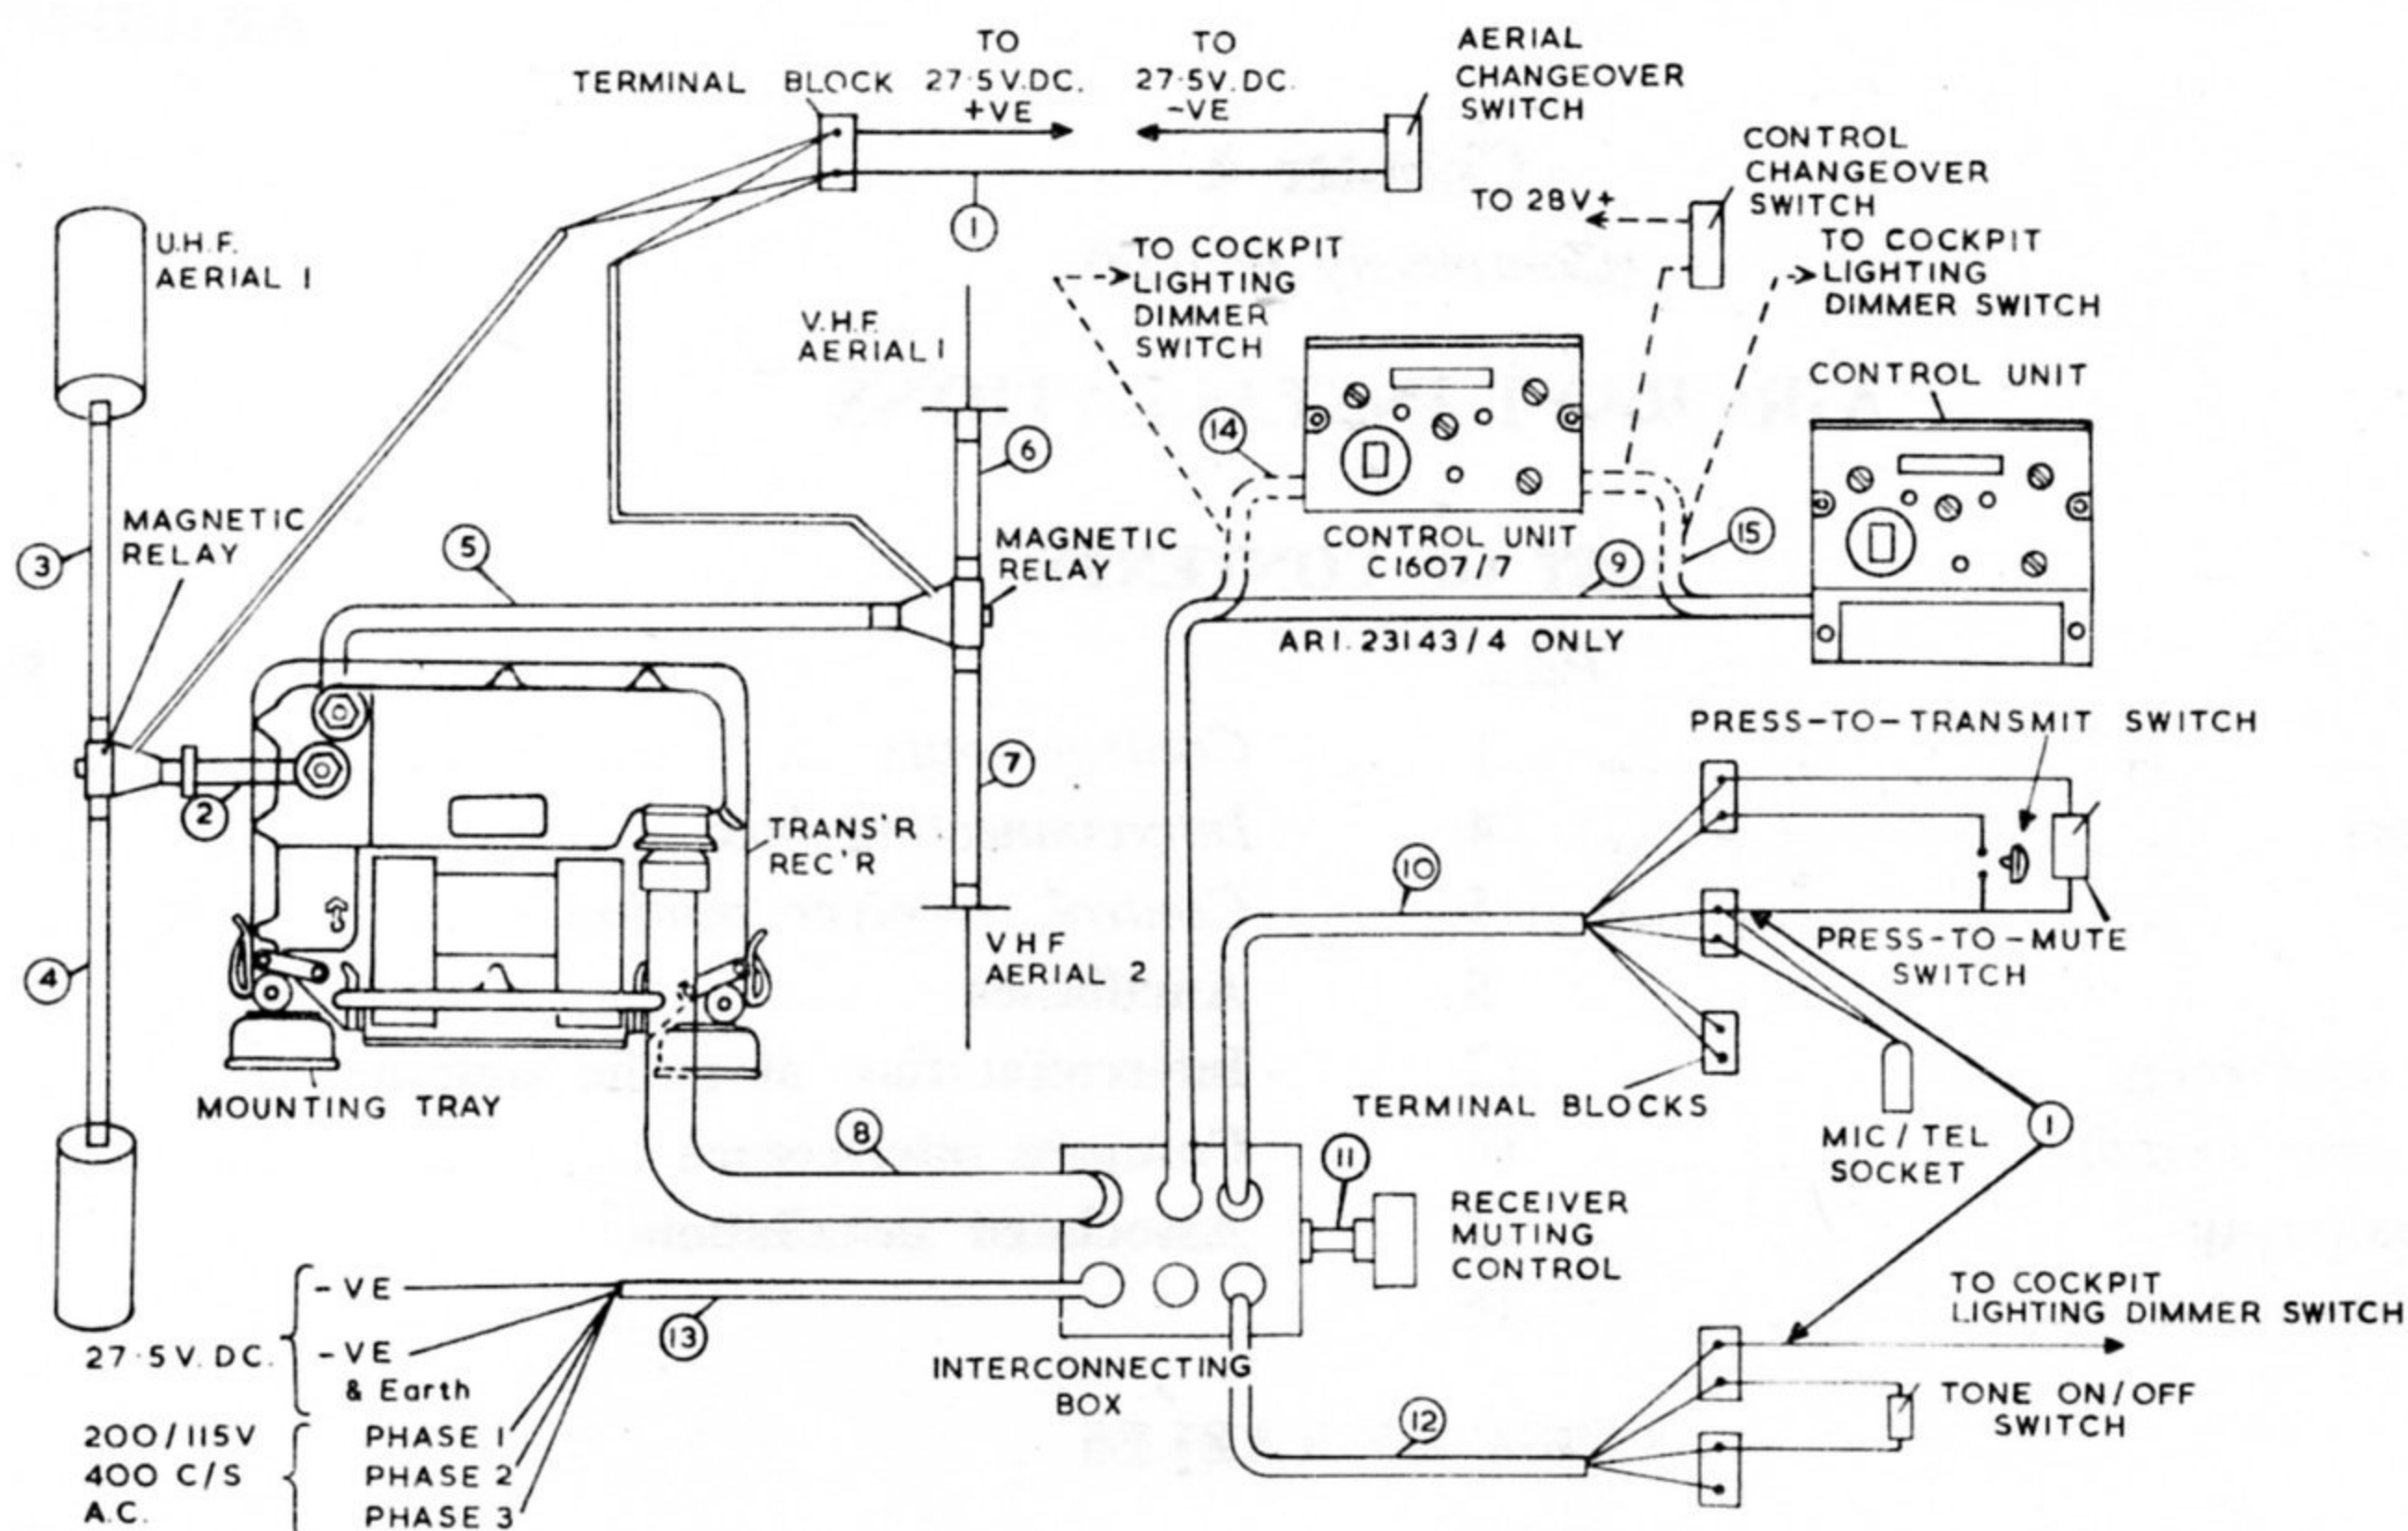
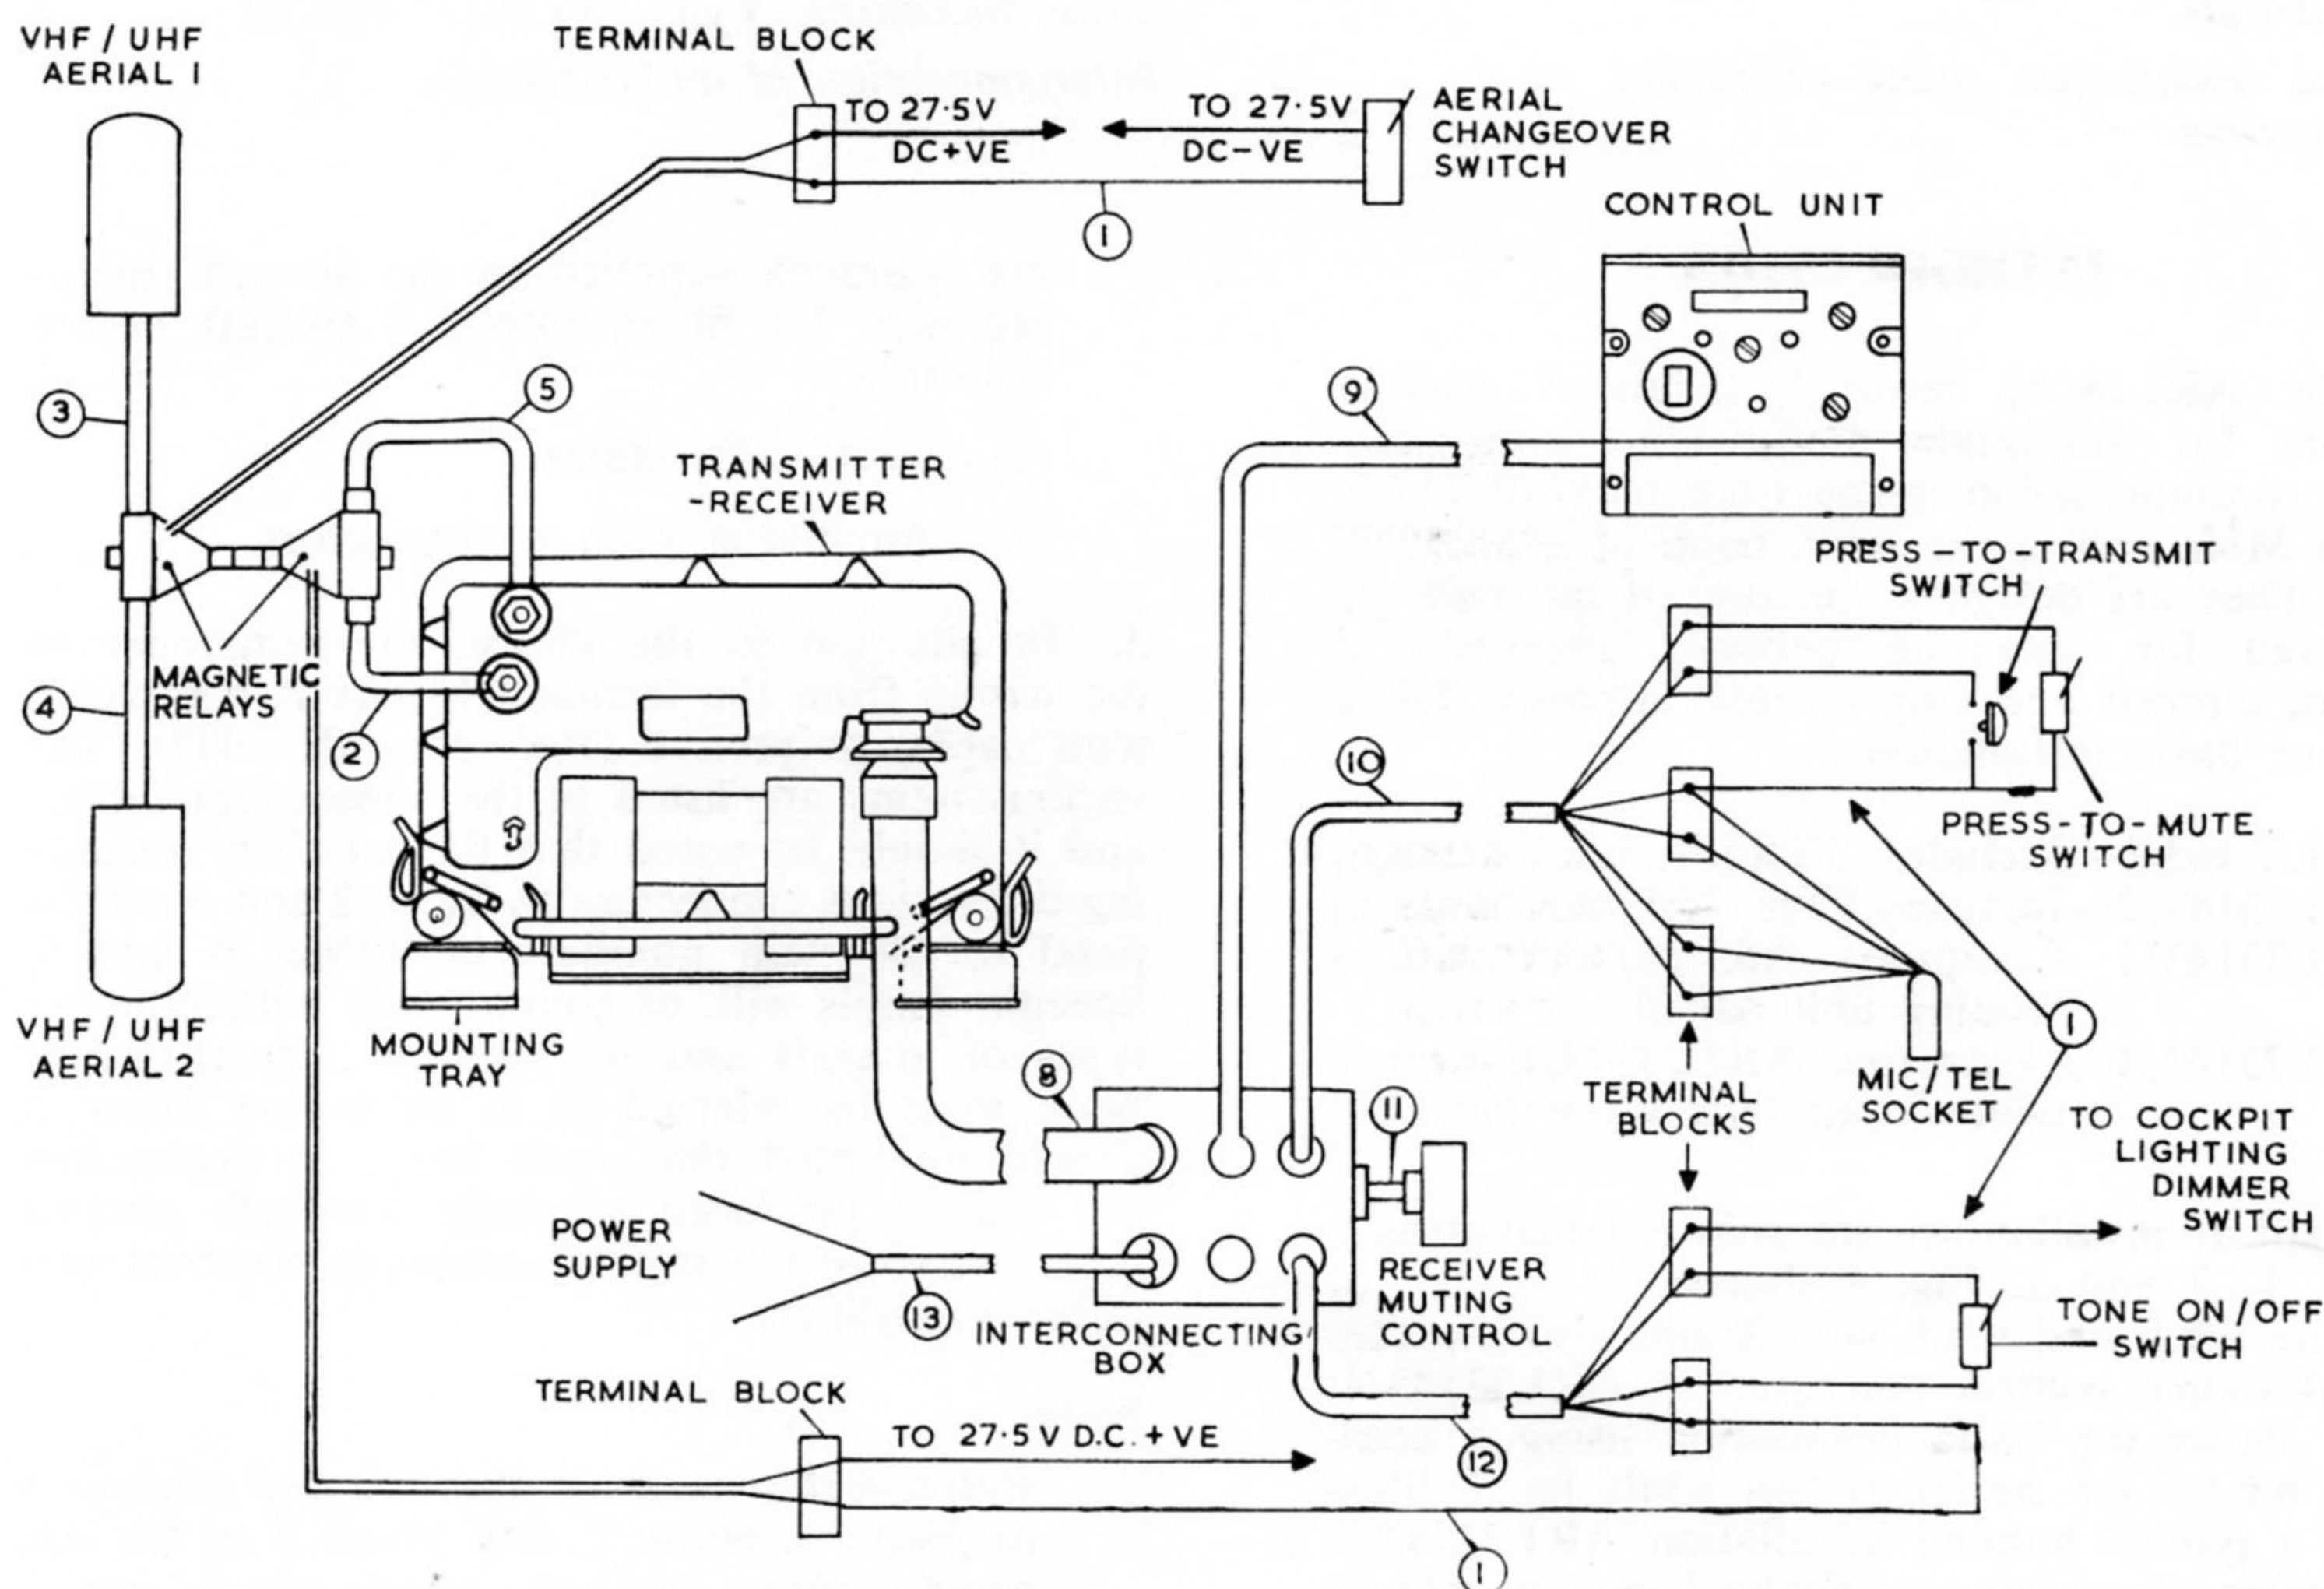
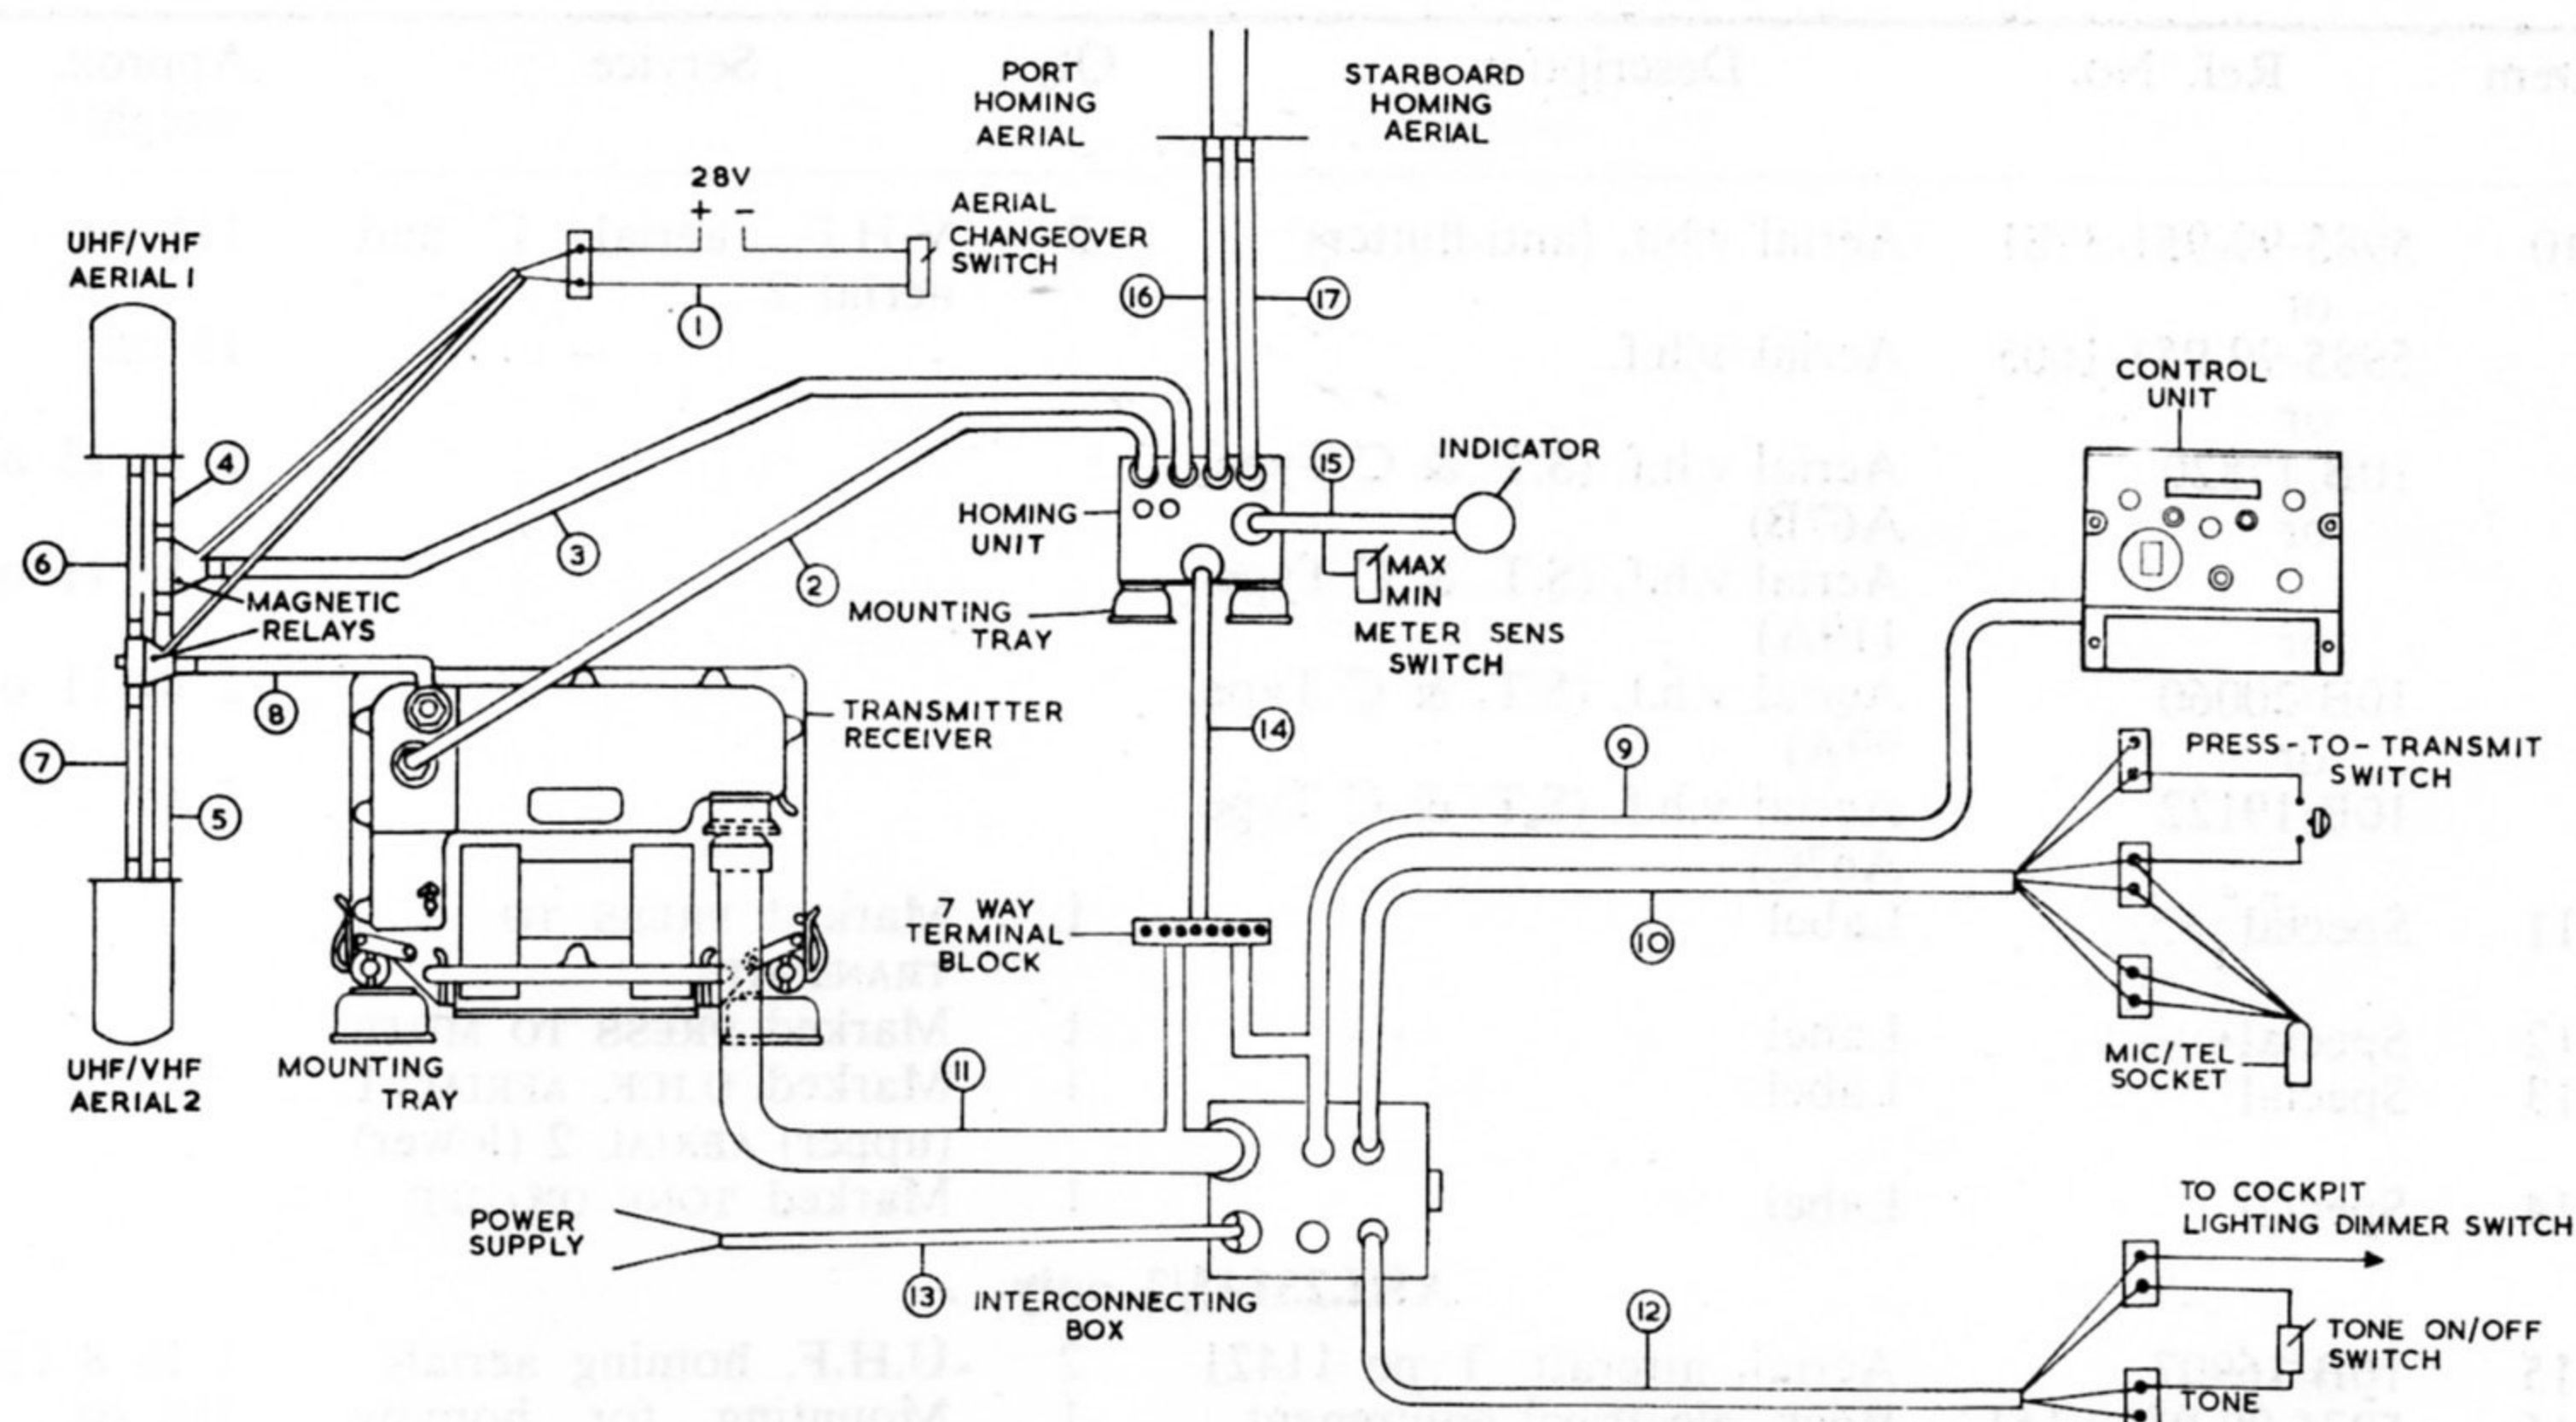

Fig. 1. Typical installation using separate v.h.f. and u.h.f. aerials
Fig. 2. Typical installation using combined v.h.f./u.h.f. aerials
Fig. 3 Typical homing installation
2. Typical installations are shown schematically in fig. 1, 2 and 3. Fig. 1 illustrates the use of separate u.h.f. and v.h.f. aerials and also includes the additional control unit used in ARI.23143/4; fig. 2 shows the basic installation using a combined u.h.f./v.h.f. aerial system while fig. 3 illustrates a typical homing installation ARI.23143/3. The items of equipment involved may be placed in three categories:—
3. In addition to the above, the remainder of the wiring from the terminal blocks is completed with cable, unipren 6 (Ref. No. 5E/3038). The various items are listed in the subsequent tables, and it should be noted that the numbers indicating the various connectors in fig. 1, 2 and 3 correspond to the item numbers in Tables 4 and 5. Specific details will, of course, vary with different types of aircraft and the relevant aircraft handbook must be referred to in each case. Also, it should be noted that such items as connectors are usually produced specially for each aircraft type, therefore the supply catalogue numbers will differ accordingly.